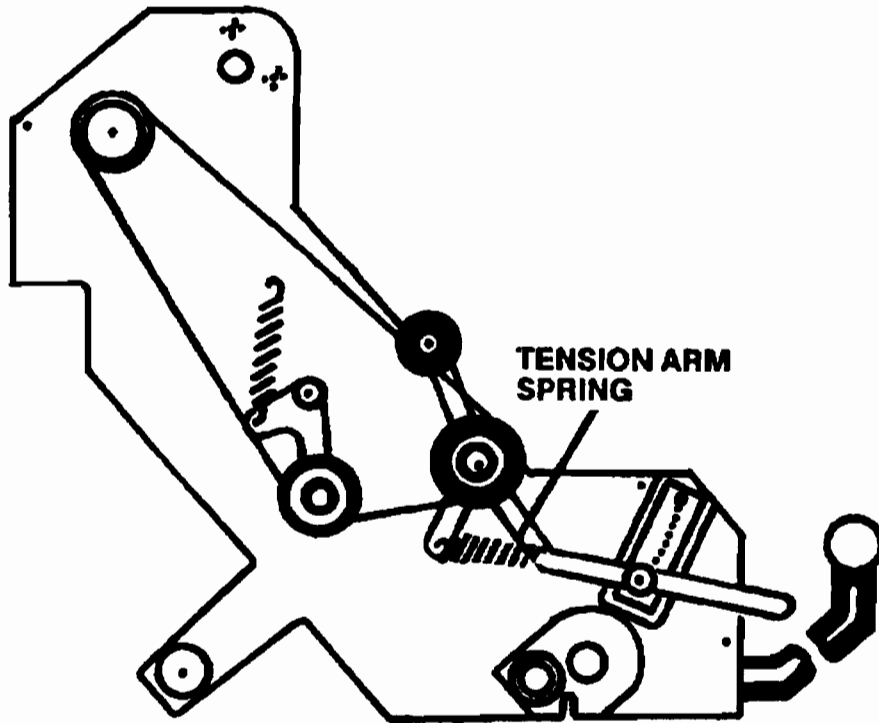

Figure 10. Installing the Tension Arm Spring
5. Bring the Paper Tension Lever forward and install the tension arm spring on the two posts (see Figure 10 - Note that this spring is longer than the idler arm spring).